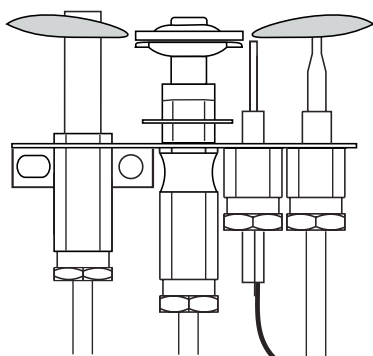

Figure 34. Pilot Burner.
2. Adjust pilot screw to provide properly sized flame as shown in figure 34).